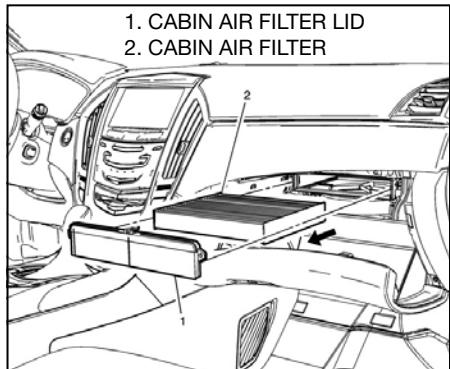

Fig. 26
4. Remove cabin air filter (see *Fig. 26*).